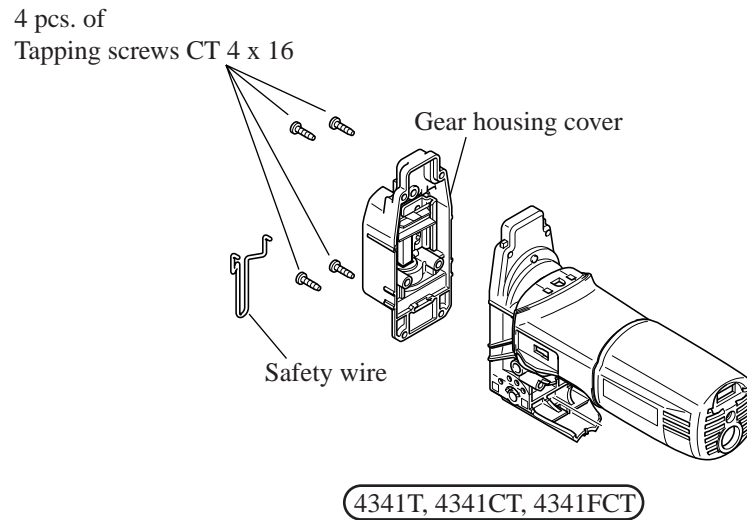

Fig. 4
1. After taking off safety wire from gear housing cover, unscrew 4 pcs. of tapping screws CT 4 x 16. Then, gear housing cover can be separated from gear housing. See Fig. 4.